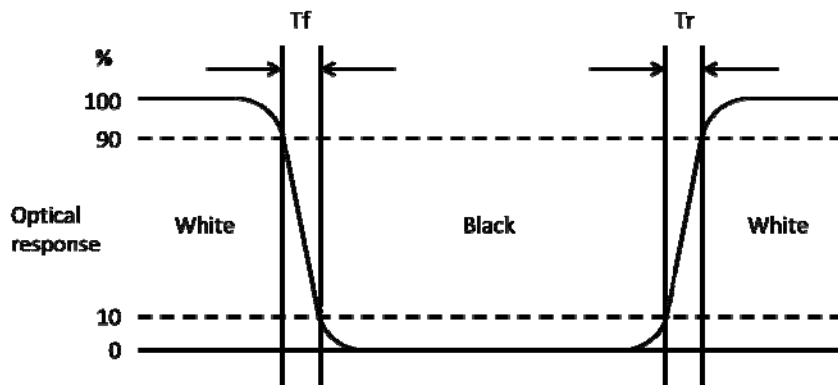

FIG. 3 Response Time
3. The output signals of photo detector are measured when the input signals are changed for "White" to "Black" (falling time) and form "Black" to "White" (rising time), respectively. The response time Interval is between 10% and 90% of amplitudes, see the FIG.3.